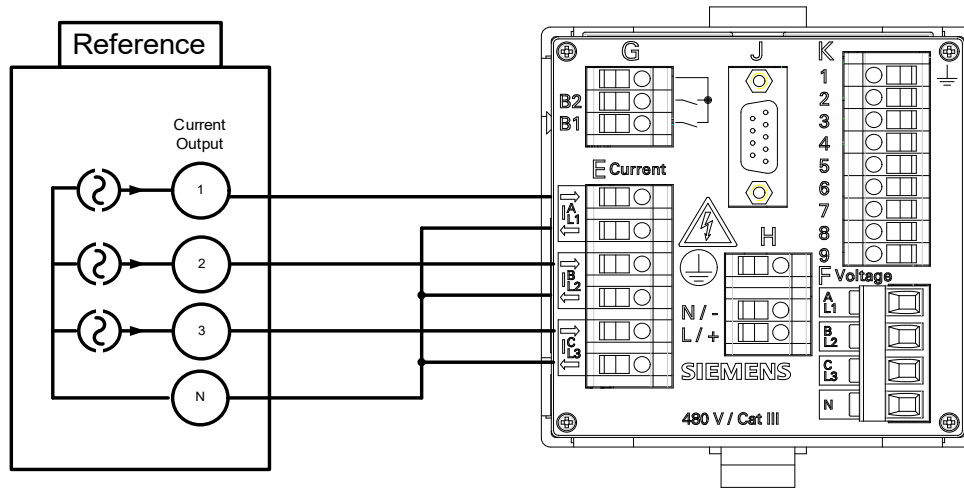

Fig. 10-4 Measurement Setup for Calibrating the AC Current Measuring Range
Calibration is only possible with symmetrical phases (3 x 120°), see figure 10-4.
- ✧ Set up the measurement as shown in figure 10-4.